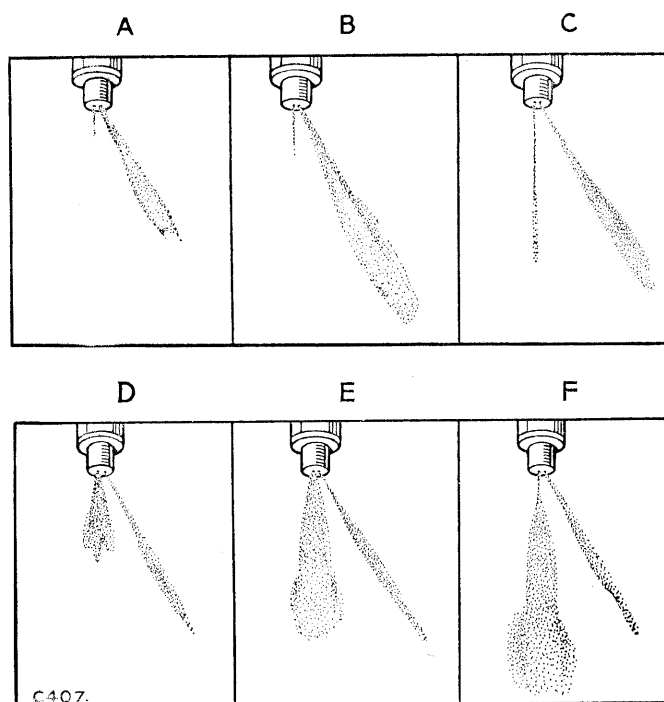

Fig. M-47—Injection nozzle spray form development
4. Whilst the starter turns the engine over, observe the manner in which fuel issues from the nozzle and compare the spray form with section "A" of Fig. M-47.
- (d) Spray form must compare favourably with the illustrations Fig. M-47.
The auxiliary spray form may be tested at 60 strokes per minute and the main spray at 140. Spray development from starting to running speeds is illustrated in Fig. M-47; this illustration should be referred to and compared with the spray form of nozzles under test.